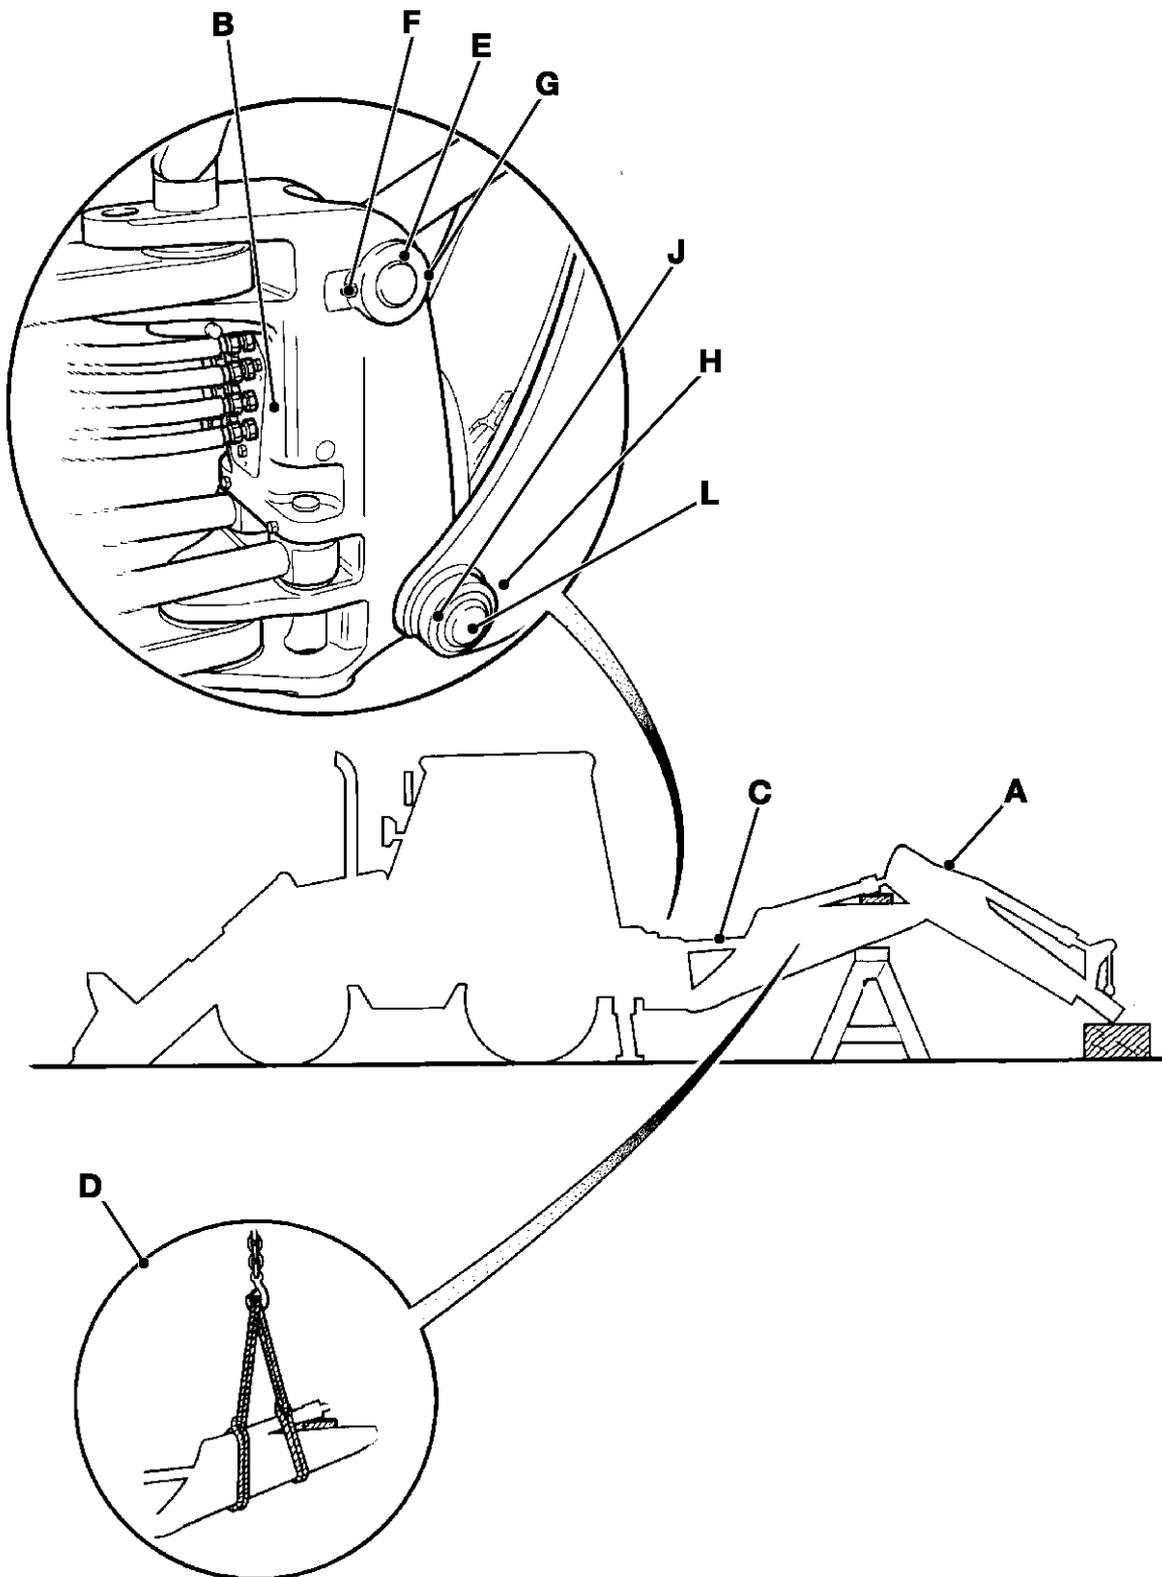

Fig 12. Boom
- 1 → Fig 12. (□ B-119). Remove the backhoe bucket and place the backhoe in the position shown at **A**.